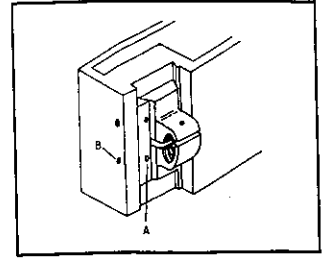

Fig.34
**HALF-NUT ADJUSTMENT (Fig.34)**